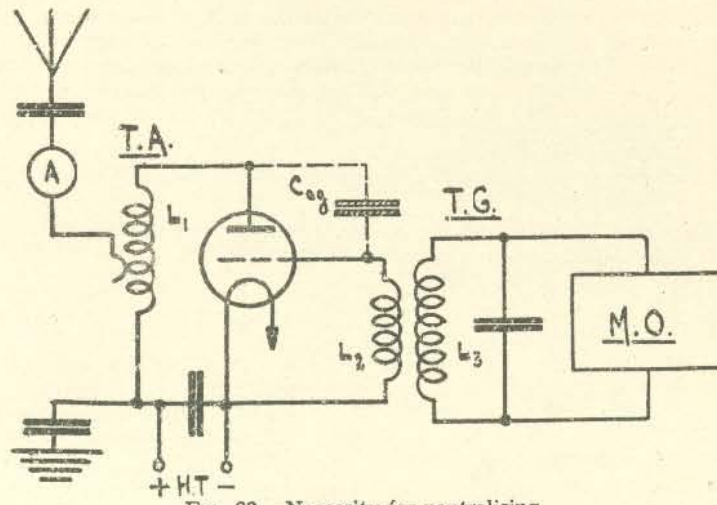

FIG. 63.—Necessity for neutralising.
7. **Neutraldyne (Neutralising).**—At high R.F. the P.A. may act as a T.A.T.G. oscillator, the grid circuit being the M.O. anode circuit and the coupling device (fig. 63). The aerial is also coupled to the M.O. output circuit via the C_{ag} of the P.A. and the coupling device $L_2 L_3$. Hence this coupling must either be destroyed or "neutralised".